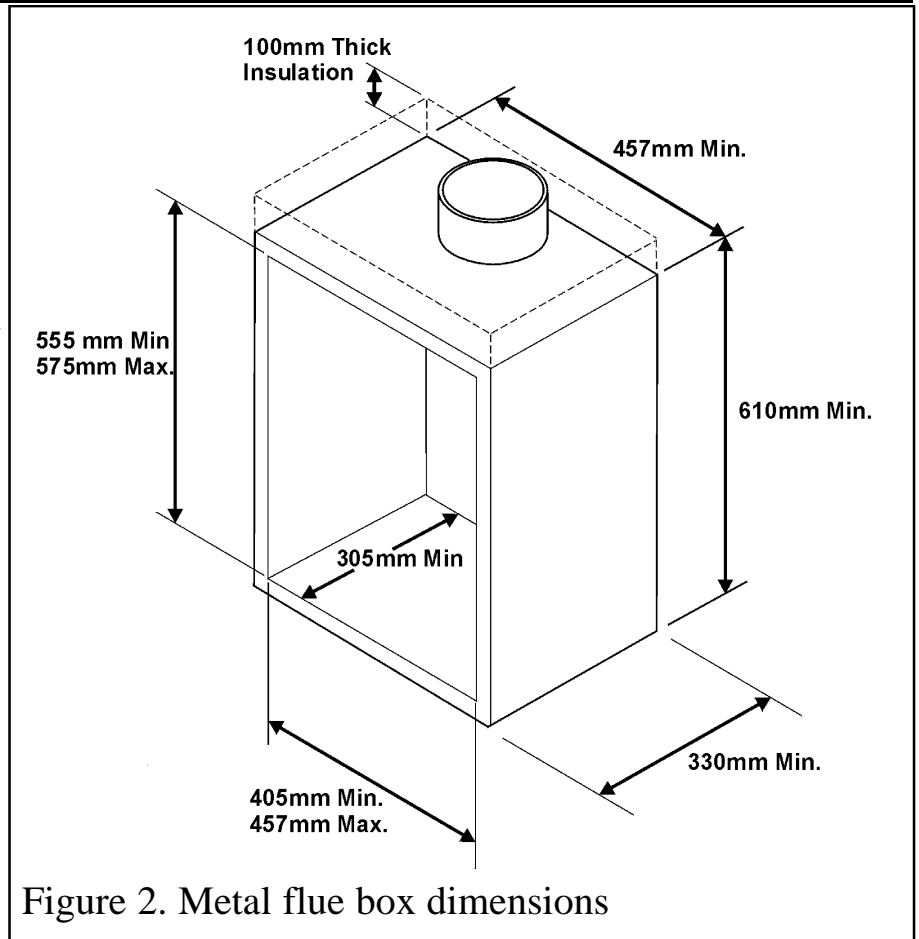

Figure 2. Metal flue box dimensions
3.2.2 To a fireplace incorporating a metal flue box complying with the constructional requirements of the current edition of BS715. The dimensions of the flue box must conform to those shown in figure 2.
The whole of the top surface of the metal flue box must be covered with a 100mm layer of mineral wool or equivalent insulation (See figure 2).